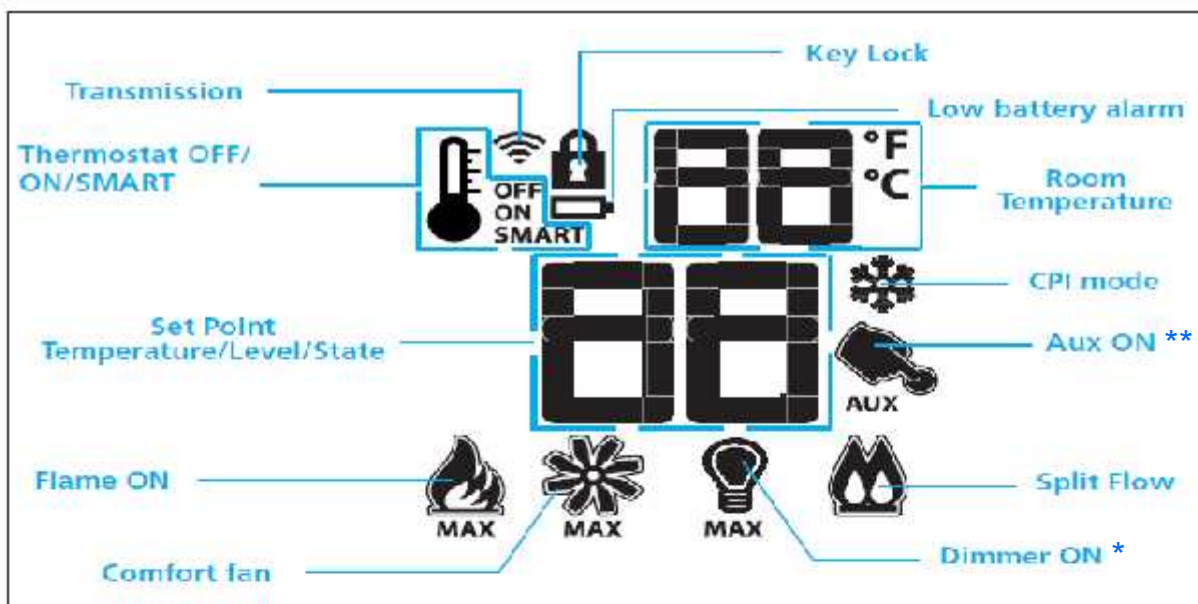

Fig. 2: Transmittter LCD display.
3 Ensure the rubber gasket (D), which is prefitted as part of assembly (E), is properly positioned, see Fig. 2, otherwise fit the gasket as shown Fig. 2.